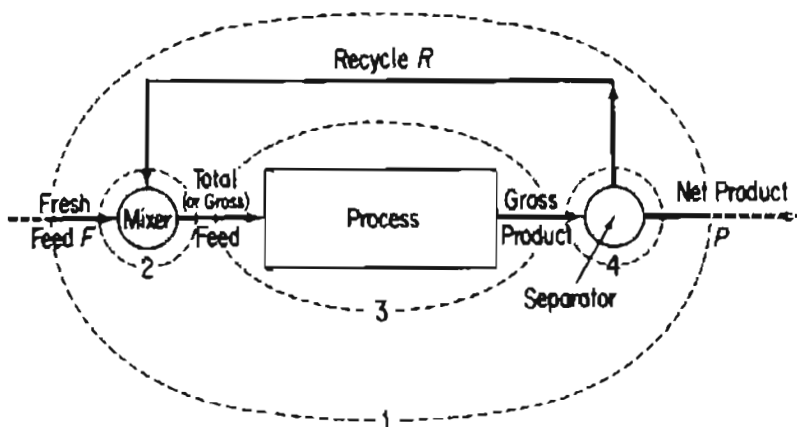

Figure 12.8 Process with recycle (the numbers designate possible system boundaries for the material balances; see the text).
The first step in problem solving is to pick a good system(s) for analysis. Examine Figure 12.8. You can write material balances for several different systems, four of which are shown by dashed lines in Figure 12.8, namely:
1. About the entire process including the recycle stream, as indicated by the dashed lines identified by 1 in Figure 12.8. These balances contain no information about the recycle stream. Note that the **fresh feed** enters the overall system and the **overall or net product** is removed.
2. About the junction point (mixing point) at which the fresh feed is combined with the **recycle stream** (identified by 2 in Figure 12.8) to produce the **total, or gross, feed**. These balances do contain information about the recycle stream.
3. About the basic process itself (identified by 3 in Figure 12.8). These balances do not contain any information about the recycle stream. Note that the **total (gross) feed** enters the process and the **gross product** is removed.
4. About the junction point at which the gross product is separated into recycle and overall (net) product (identified by 4 in Figure 12.8). These balances do contain information about the recycle stream.
In addition, you can make balances (not shown in Figure 12.8) about combinations of subsystems, such as the process plus the separator (3 plus 4), or the mixing point plus the process (2 plus 3). These balances added to the set of balances for the individual units would not be independent balances, but might be convenient to use, and serve as substitutes for some of the unit balances.
Note that in Figure 12.8 the recycle stream is associated both with the mixer, which is located at the beginning of the process, and with the separator, which is located at the end of the process. As a result, recycle problems lead to coupled equations that must be solved simultaneously. Therefore, sets of equations involving recycle typically require robust computer software to avoid trouble in solving the equations. You will find that overall material balances (1 in Figure 12.8), particu-